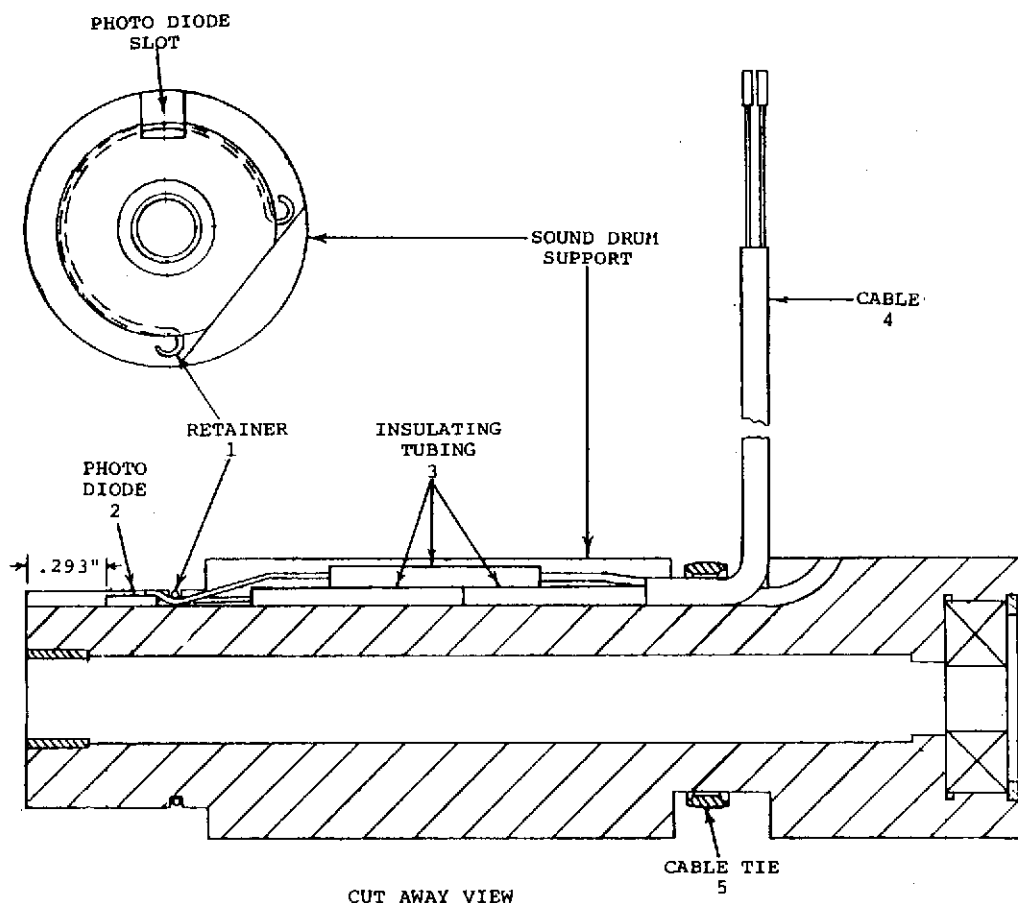

Figure 3-33. REPLACING PHOTO DIODE CHIP IN SOUND DRUM SUPPORT
2. Remove the Retainer (1) and the Photo Diode (2) out of the slot. Clip the leads and discard the Diode. (Figure 3-33)
3. Remove the Insulating Tubing (3) and unsolder the remaining portion of the Diode leads.
5. Position a new Photo Diode into the slot with the shiny, black surface up (red wire) and the end aligned with the mark made in Step 1. Assemble the Retainer (1) to hold the Photo Diode in place, orienting the Retainer as shown in Figure 3-33. Make sure the Photo Diode is perfectly flat in the slot. (The end of the Photo Diode should be .293" --about 9/32"-- from the end of the Sound Drum Support.) THE PHOTO DIODE IS VERY FRAGILE. BE VERY CAREFUL NOT TO BREAK IT!